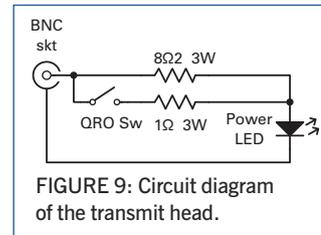

FIGURE 9: Circuit diagram of the transmit head.
**TRANSMIT HEAD.** The transmit head consists of a power LED and current limiting resistors mounted on and in a diecast box. **Figure 9** shows the circuit diagram. In normal use the QRO switch is left open. When using SSB it is possible to close the switch, which lets a lot more current flow through the LED LED on speech peaks. Do it at your own risk – it only gives about one extra S-point and I've blown several LEDs this way. Trying it on FM or CW is almost certain to blow the LED.